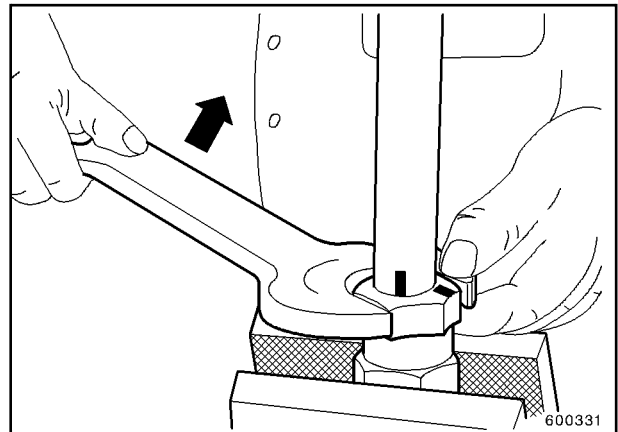

Fig. 11
7. Tighten union nut with a wrench / spanner (Fig. 11).